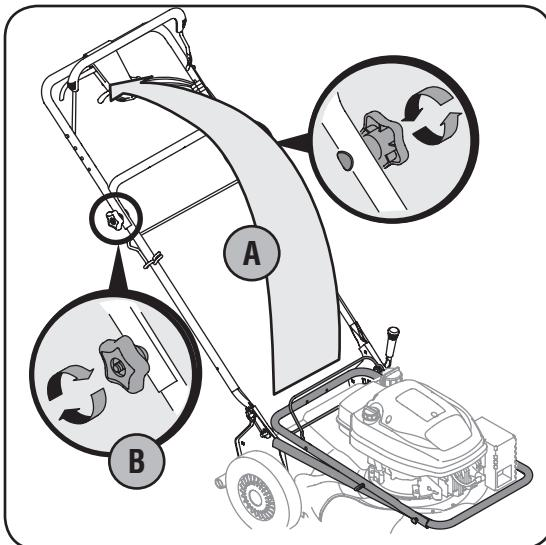

Figure 1
a. Pull up and back on the upper handle to raise the handle from position A. See Figure 1.